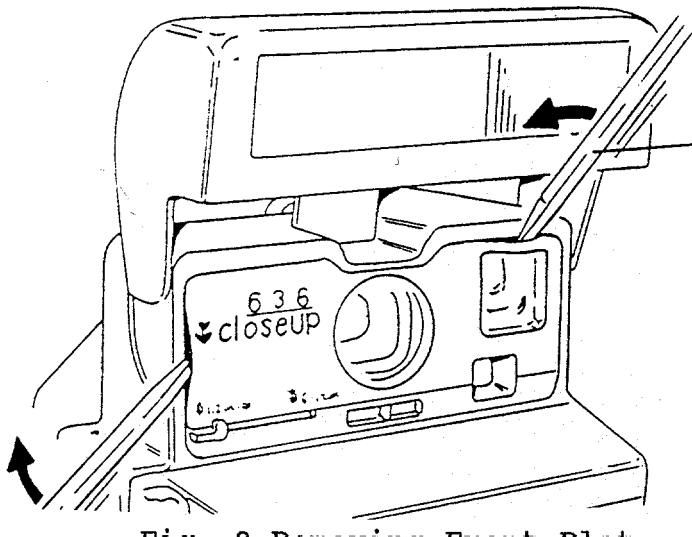

Fig. 8 Removing Front Plate
- a. Remove the Front Plate/Lens Panel from the apron (Fig. 8).